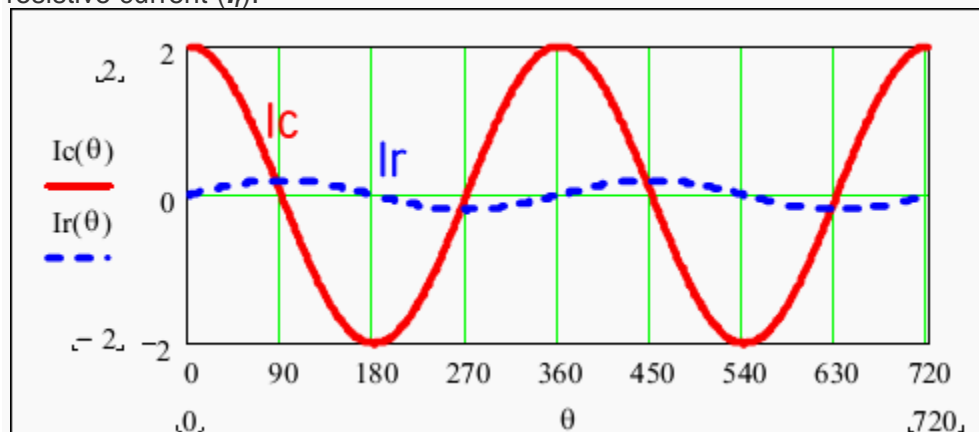

Figure 2 - Insulation current with AC voltage applied
**Figure 2** shows the time domain graph of the two currents. For good insulation: